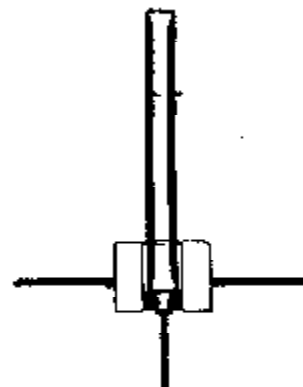

FIG 3
- 5a Single bearing motor: position D+D tool until seated on bearing , tap lightly to remove bearing (Fig 3).